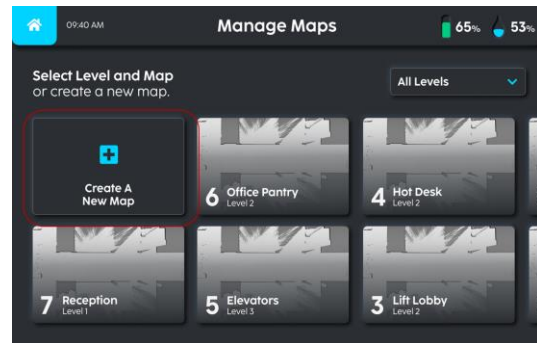

FIGURE 4-2
2. Select 'Create A New Map' (Fig. 4-2).